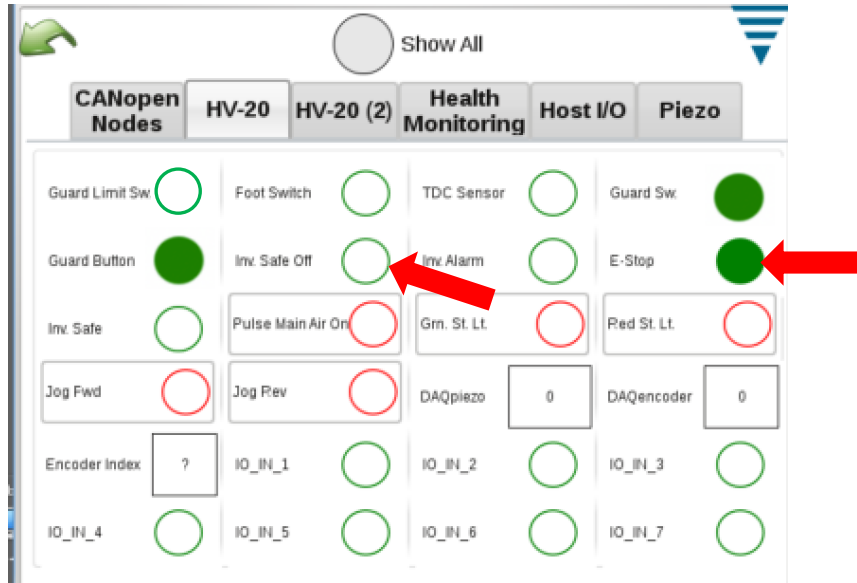

Figure 19
3. On the Diagnostics Screen, verify that the input identifier “Guards Sw.” is ON (see Figure 19).
9. Verify that the input identifier “E-Stop” is ON ● and that the input identifier “Inv. Safe Off” is OFF ○ (see Figure 19).
Shut Height Gage PN 679655-2 (reference Figure 19) is recommended for measuring shut height (refer to 408-8535 for instructions on use of the gage along with Base Plate Adapter PN 2326031-1).